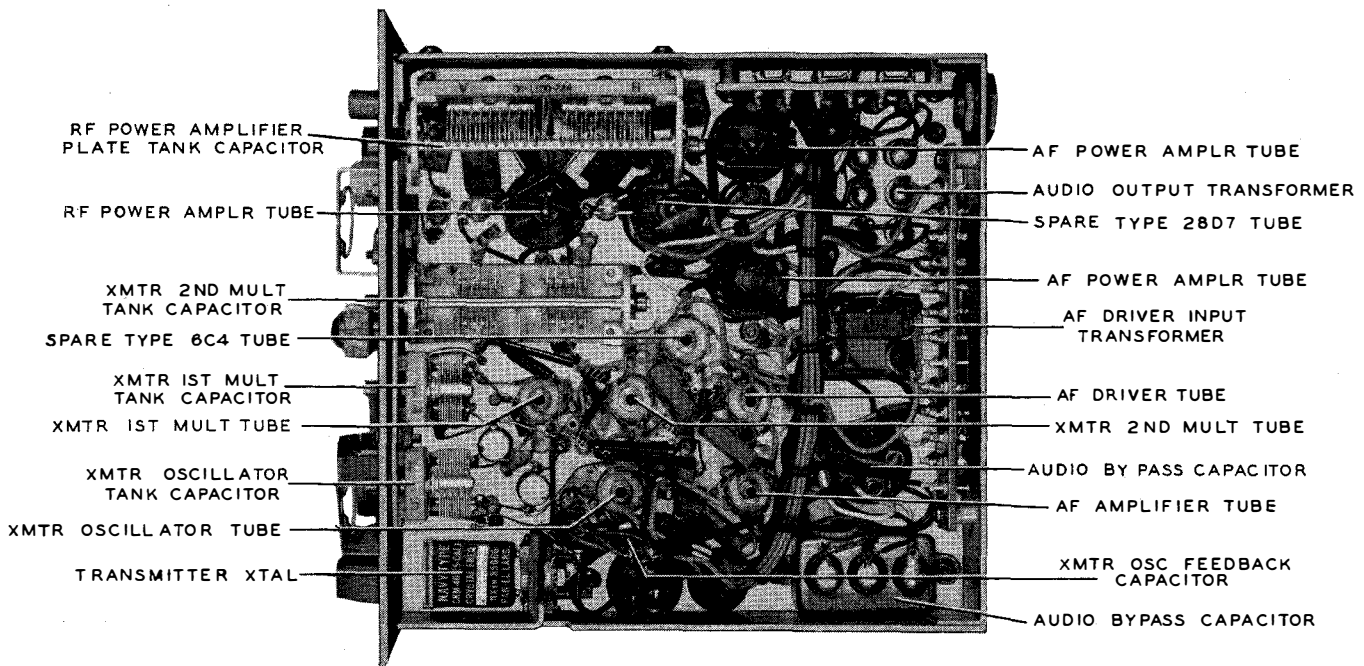

Figure 4-6—Navy Type COL-43065 Radio Transmitter-Receiver, Transmitter Section
b. TRANSMITTER RF CIRCUITS. (See figures 4-6 and 4-7.)—The transmitter RF section of this equipment employs an oscillator, two frequency multiplying stages and a power amplifier. The transmitter has a power output of 3.5 watts with a frequency range of 60 to 80 megacycles. The frequency is controlled by a crystal oscillator.